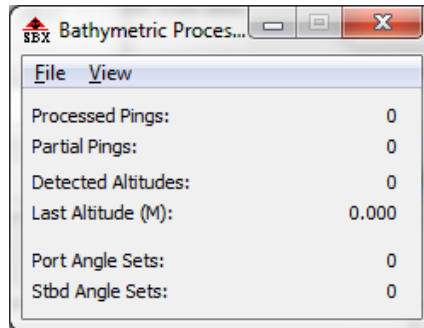

Figure 33: Disabled BATHYMETRIC PROCESSOR
1. If the **Bathymetric Processing** box is unchecked *during real time acquisition*, the system will act as a simple side scan system and will not compute or acquire any bathymetric solutions. If this is the case, the BATHYMETRIC PROCESSOR will remain dormant as in Figure 33.